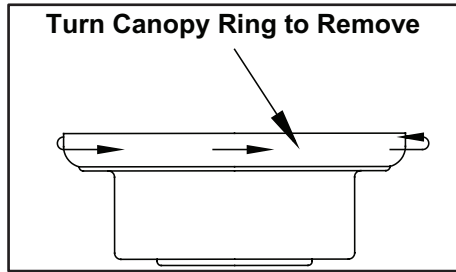

Figure 5
1. Remove the canopy ring from the canopy by turning the ring clockwise until it unlocks. (Figure 5)
1. Remove the canopy ring from the canopy by turning the ring to the right until it locks. (Figure 5)